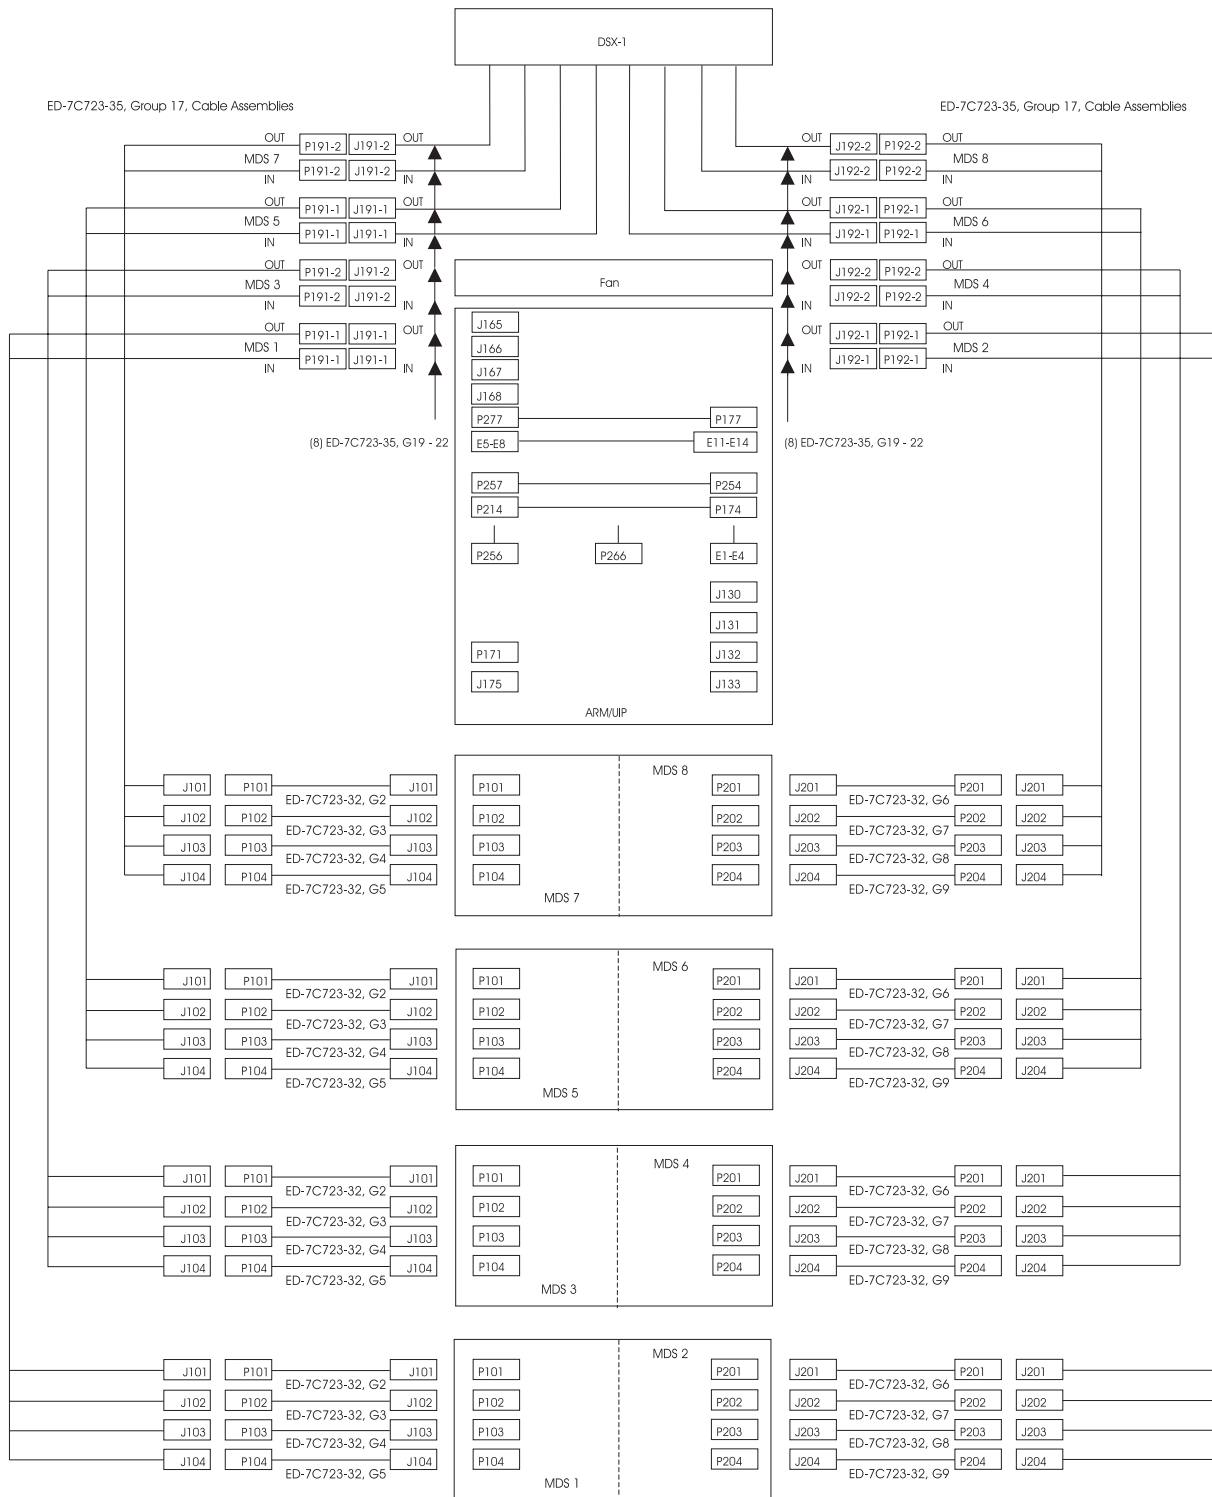

Figure 1 – MDS/DSX-1 Cabling Connections
3. Install new MDS/DSX-1 transmission cable assembly ED-7C723-35, Group 17 (601831043), by connecting the P191 and P192 connectors to the J191 and J192 connectors on the ends of the ED-7C723-35, Group 19, cables (refer to Figure 1). Do not connect the MDS ends of the Group 17 cable yet.
9. Connect the new ED-7C723-35, Group 17, cable connectors J101 to J104 to the ED-7C723-32, Group 2 through 5, dangles (P101 through P104) from each MDS (refer to Figure 1) in matching increasing order.